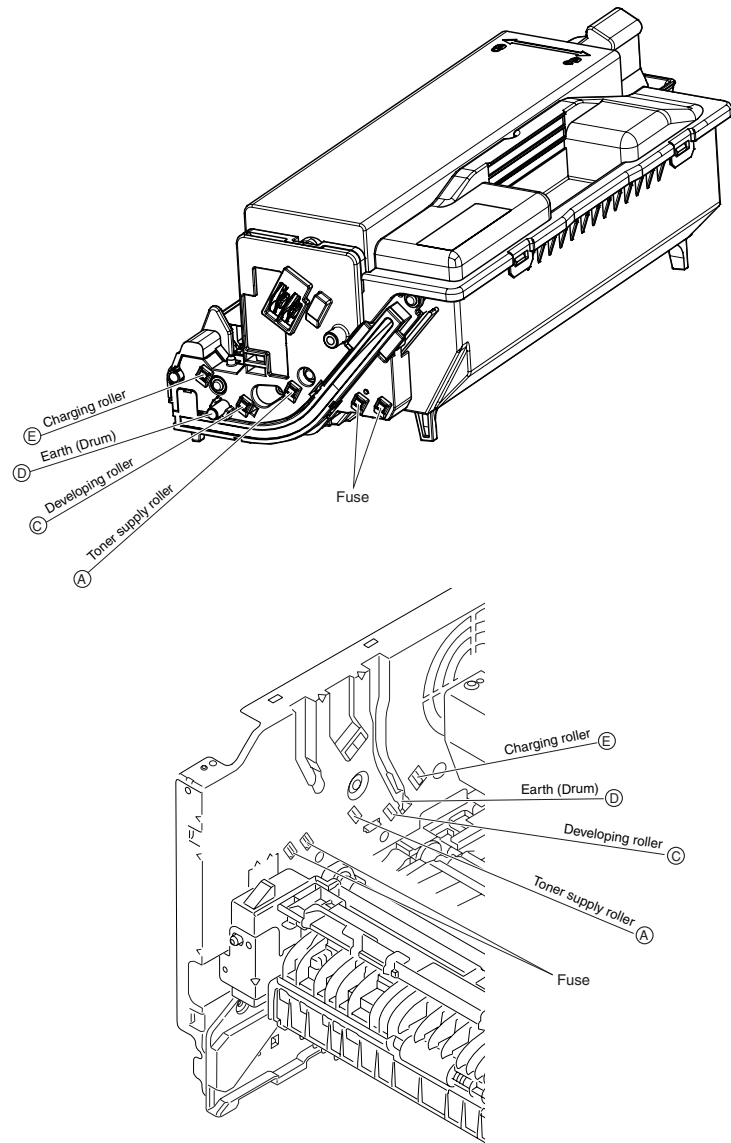

Figure 2-3
- Yes Are the contact of the developing roller and toner supply roller of the image drum cartridge appropriately connected to the contact assembly? (See Figure 2-3 ① and ②)
③ White paper is outputted
- Yes Is the image drum cartridge appropriately connected to the earth contact? (See Figure 2-3 ㉔)